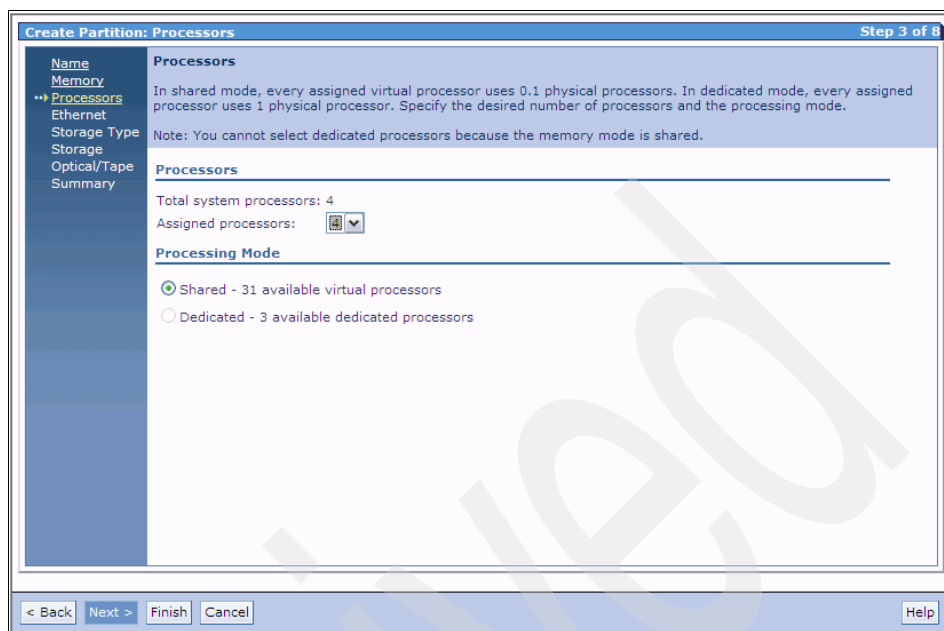

Figure 5-14 Selecting the number of processors in a shared memory partition
3. The next step is to select of the number of shared (virtual) processors, as shown in Figure 5-14 on page 192. Notice that the dedicated processor option cannot be selected. Use the drop-down box to select the number of assigned processors and then click **Next**.